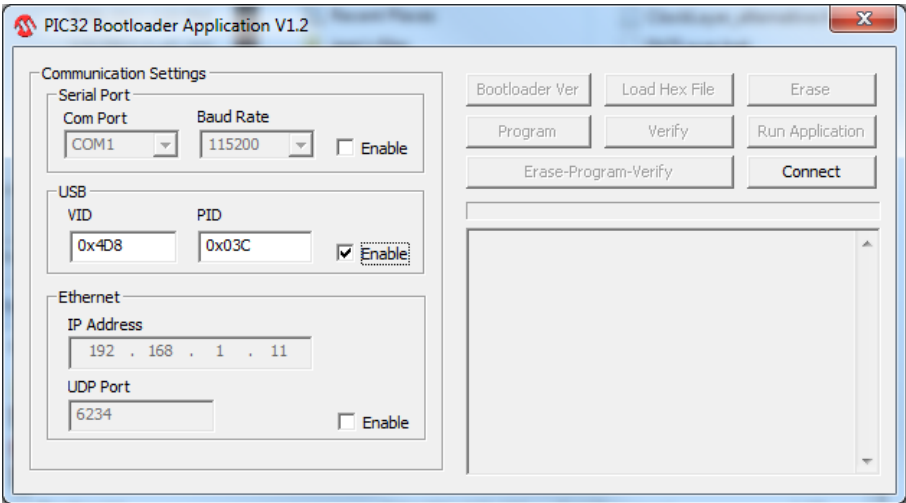

Figure 56: Connect Bootloader Software
4. Otherwise, attach a USB cable to the board and press "Enable" check box in the USB tab of the GUI then press on "Connect" as shown in Figure 56